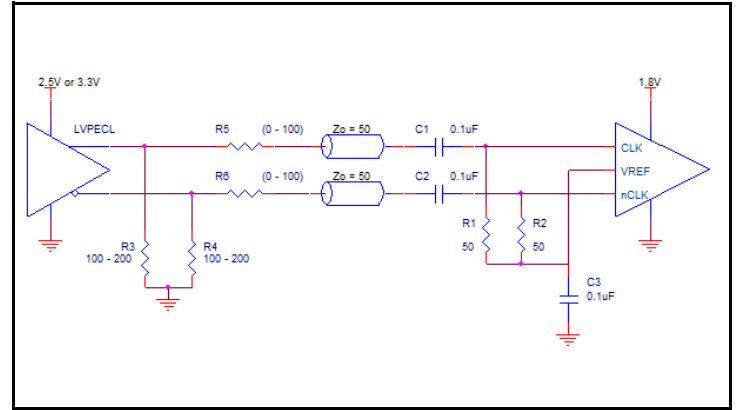

Figure 2B. Differential Input Driven by an LVPECL Driver - AC Coupling
1. V_{REF} specification is applicable to the AC-coupled input interfaces shown in *Figures 2B and 2C*.